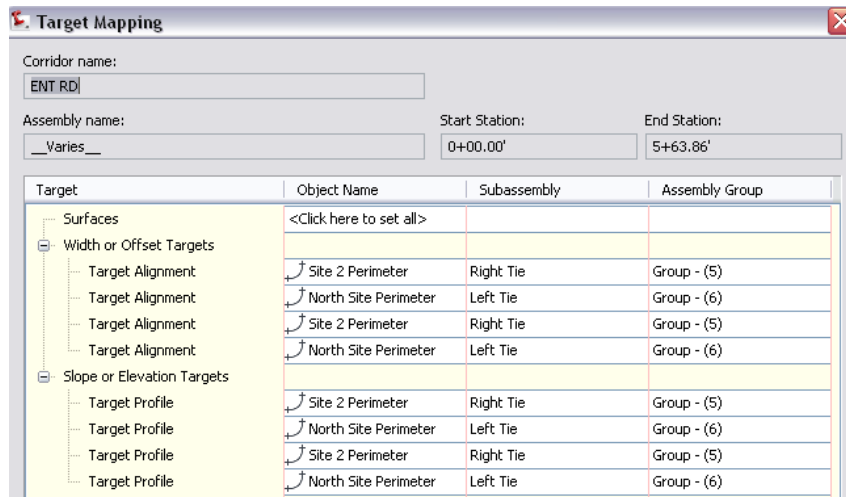

Figure 33: Target references feature lines
For this example, we click the Targets button for Region (1). This displays the Target Mapping dialog box as shown in figure 33. Note the objects that are referenced as targets.